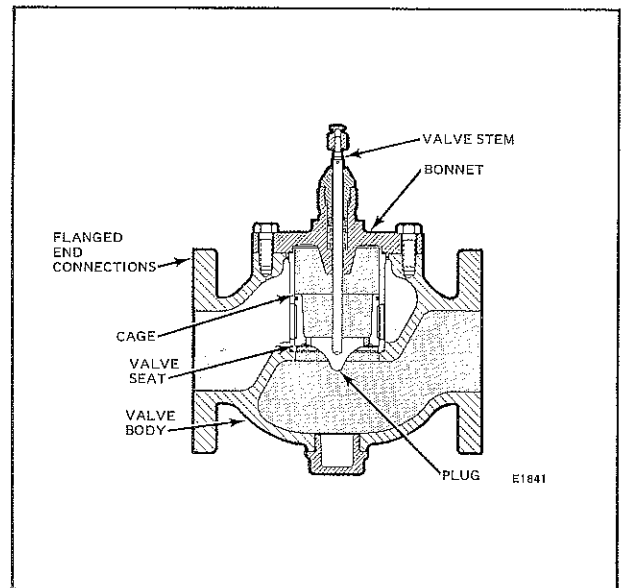

FIG. 2—CUTAWAY VIEW OF V5051A.
**CONNECTIONS:** Flanged (Fig. 2).